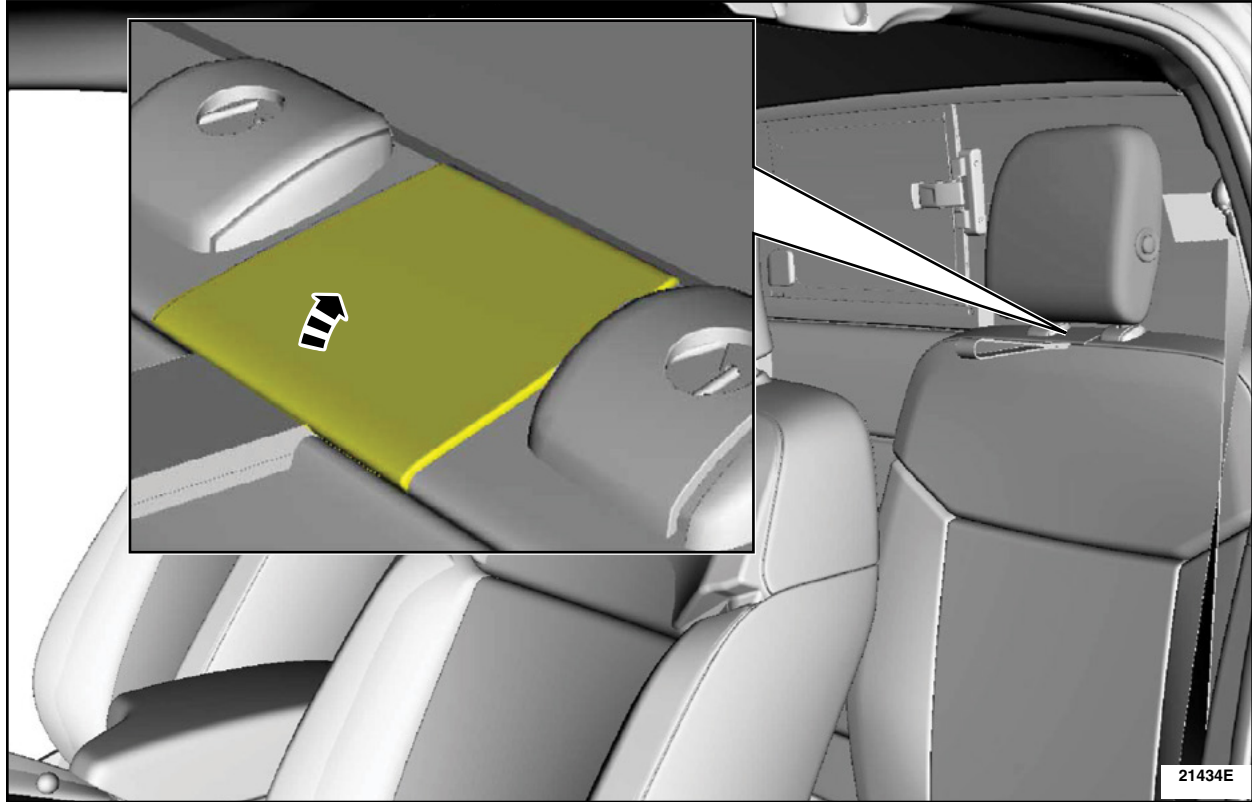

FIGURE 2
2. Remove both the Right Hand (RH) and the Left Hand (LH) rear seat cushions. Please follow the Workshop Manual (WSM) procedures in Section 501-10B.
3. On both sides, position the rear seat backrest bolt cover upward. See Figure 2.